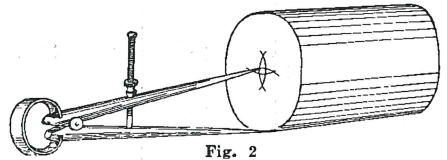

Fig. 2
**LOCATING CENTERS.** There are several ways of finding the centers of the work. Probably the easiest method, and the one most generally used, is illustrated in Fig. 2.